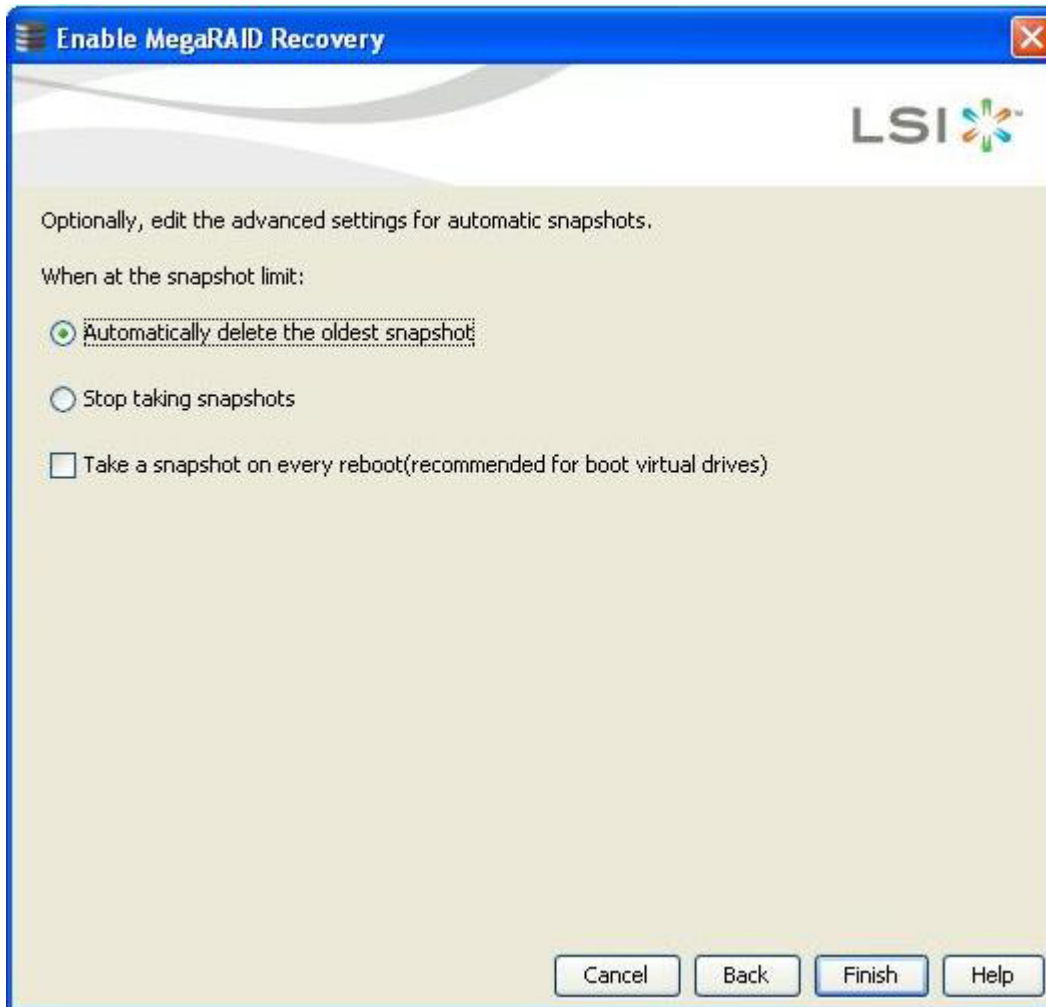

Figure 253 Enable MegaRAID Recovery - Editing Snapshot Properties Dialog
- The **Enable MegaRAID Recovery – Editing Snapshot Properties** wizard appears, as shown in Figure 253. You can edit the settings for automatic snapshots.